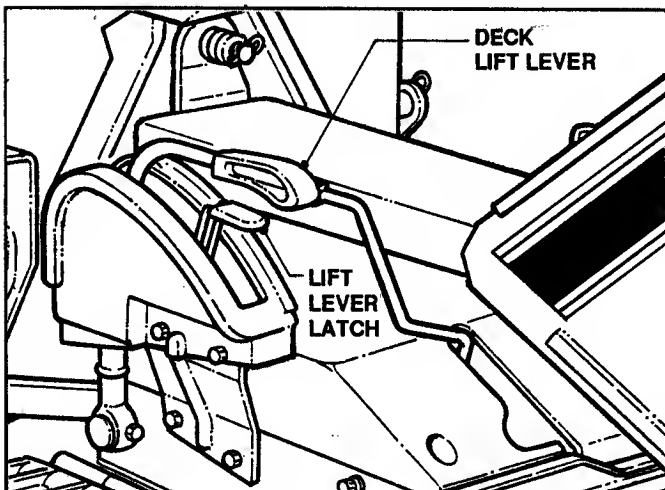

FIGURE 2.13
1. Adjust cutting height as desired to any one of six positions using deck lift lever. See Figure 2.13.